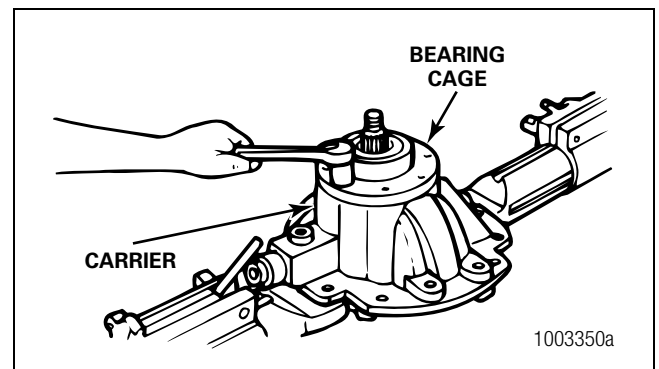

Figure 3.24
5. Remove the capscrews and washers that hold the bearing cage in the carrier. Figure 3.24.